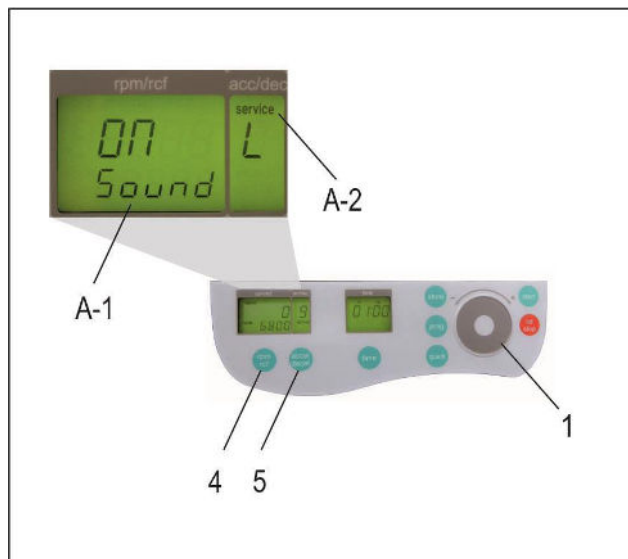

Figure 6
- All changed settings must be confirmed by the key, “start” (9). A confirmation screen will appear with the word, “store”, in the display “rpm/rcf” (A-1) - Only then the pre-selections are valid!
Proceed as illustrated, under point 3.2, to enter this program mode, press the key; "accel/decel" (5). In the display, "accel/decel" (A-2) flashes the word, "service". Select the letter, "L" with the control field (1). As a result, appearing in the display "rpm/rcf" (4), are the words, "On Sound". By pressing the key, "rpm/rcf" (4), the word "On" flashes, and the sound can be switched off with the control field (1), (see Figure 6).